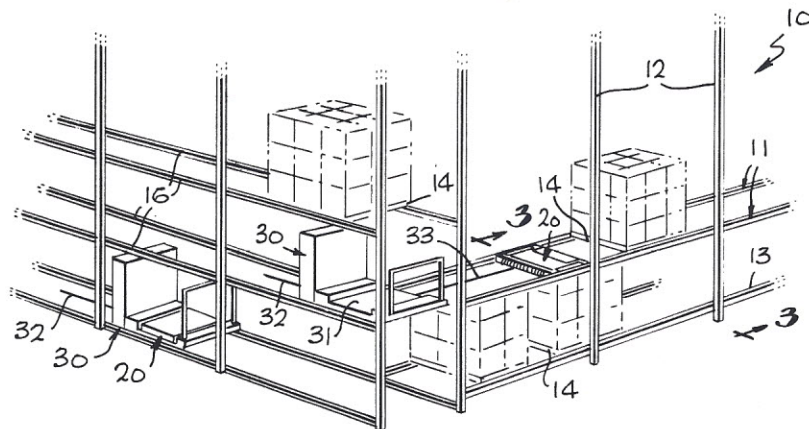

Figure 1. The transport vehicles move along storage rack tracks.
Figure 1 shows the automated storage system disclosed. The system is made up of a storage rack formed by horizontal rails (11) and supported by vertical columns (12). Each pair of rails forms a storage bay along its entire length. The storage rack can consist of a single level or can be multitiered.